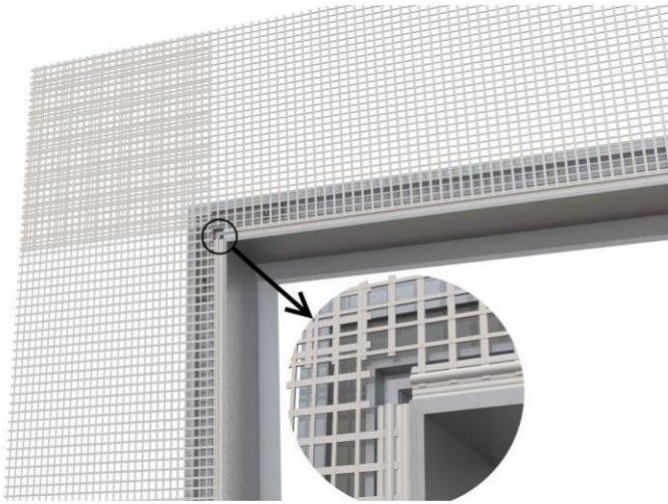

Fig. 11 — Reinforcing mesh applied with overlap at outer corners
2. At outer corners of the opening, apply the mesh with an overlap for additional reinforcement (Fig.11).